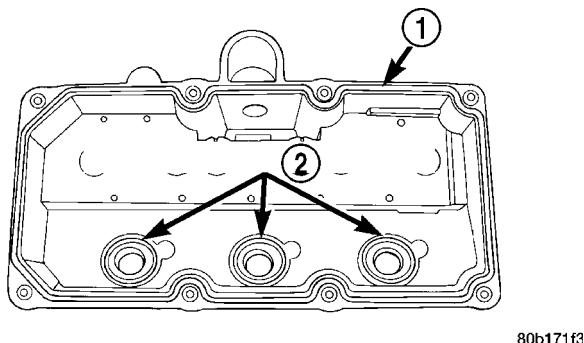

Fig. 25 Cylinder Head Cover Gasket and Spark Plug Tube Seals
(1) Clean cylinder head and cover mating surfaces. Inspect and replace gasket and seals as necessary (Fig. 25).
(2) To replace spark plug tube seals: